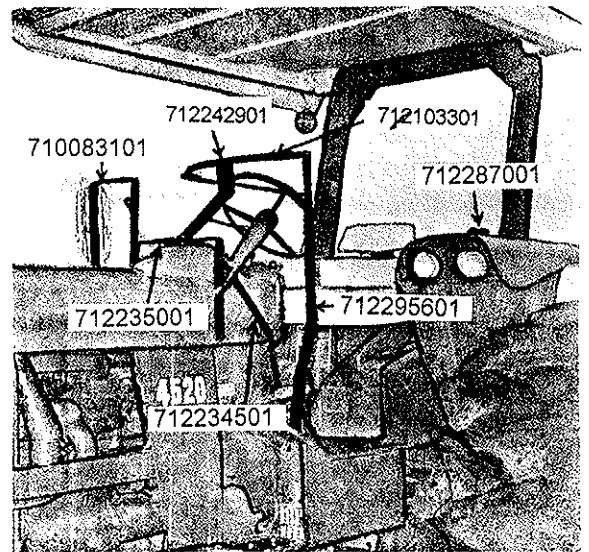

Figure 3
5. Bolt the door post to platform using 3/8" x 1" hex head bolt. Place (2) 3/8" flat washers under door post. There is another hole in bottom of door post which can be drilled and bolted to platform but do not do this until cover is completely installed. See Figure 3.
10. Insert the yoke in top hem of vinyl. Attach the right side to the side arm using 3/8" x 1 1/2" bolt. Bolt yoke to mounting bracket using (2) 1/4" x 3/4" flat head bolts and nuts.
11. Attach the left side of yoke to top of door post using 1/4" x 1" bolt. Straighten vinyl, tie on straps and use springs to adjust straps. Use F1 clips and 3/16" x 3/4" bolts, install door on door post. Tie tapes to eyebolts in door flap. See Figures 3 & 5.